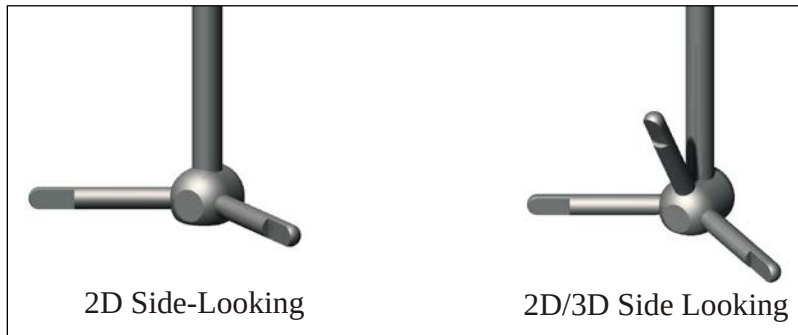

Figure 13:5 - FlowTracker2 Probe Configuration
Several FlowTracker2 probe configurations are available for different applications (see Figure 13:5).
- a) Two probe types are available (see Figure 13:5).